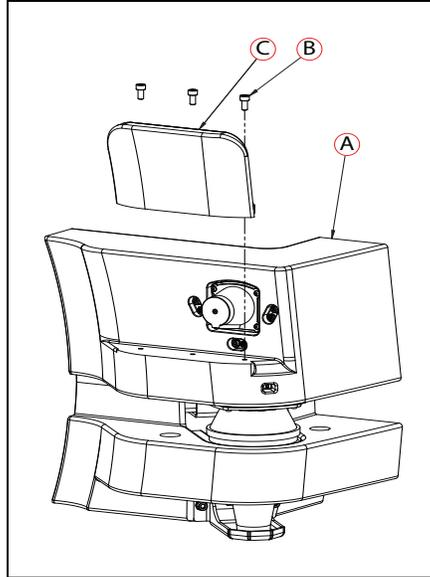

Figure 8-39. (A) Laser Corner, (B) M6 Screw, and (C) Laser Cover Fin
Once the skin is removed, you can access the back of the laser corner ((A) in Figure 8-39. and remove the side laser as instructed in the following steps.
3. Unscrew all three M6 screws ((B) in Figure 8-39.), and remove the laser cover fin ((C) in Figure 8-39.).
4. Unscrew three M4 screws ((D) in Figure 8-39.) that attach the side laser bracket to the laser corner ((A) in Figure 8-39.
5. Next, unscrew the three M3 screws ((B) in Figure 8-39.) that mount the bracket to the side laser as shown in Figure 8-39.